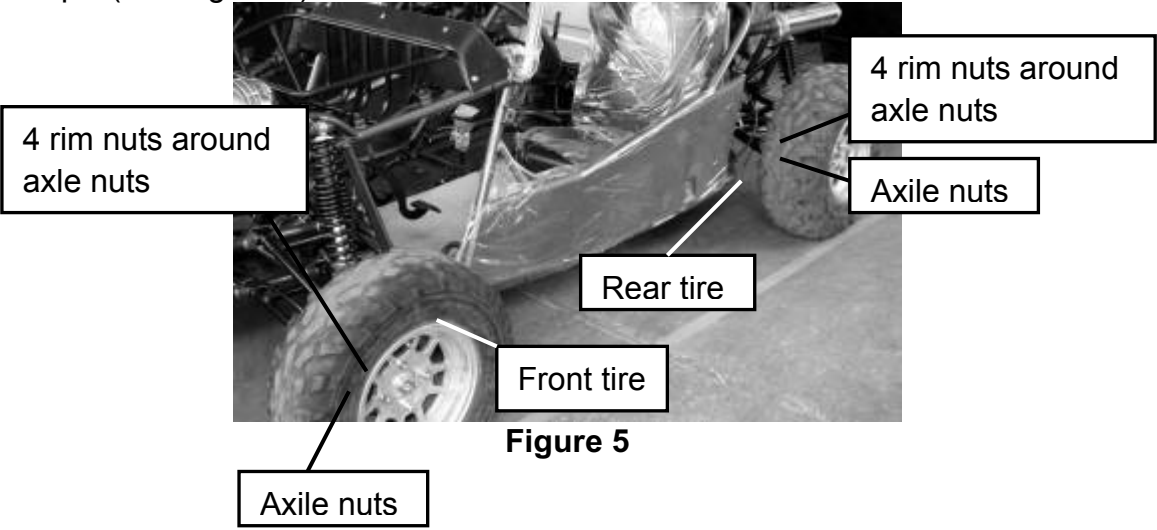

Figure 5
6. Check Tires. Check tires condition and pressure. The pressure on both Front and Rear tire is 12psi.(see Figure 5)